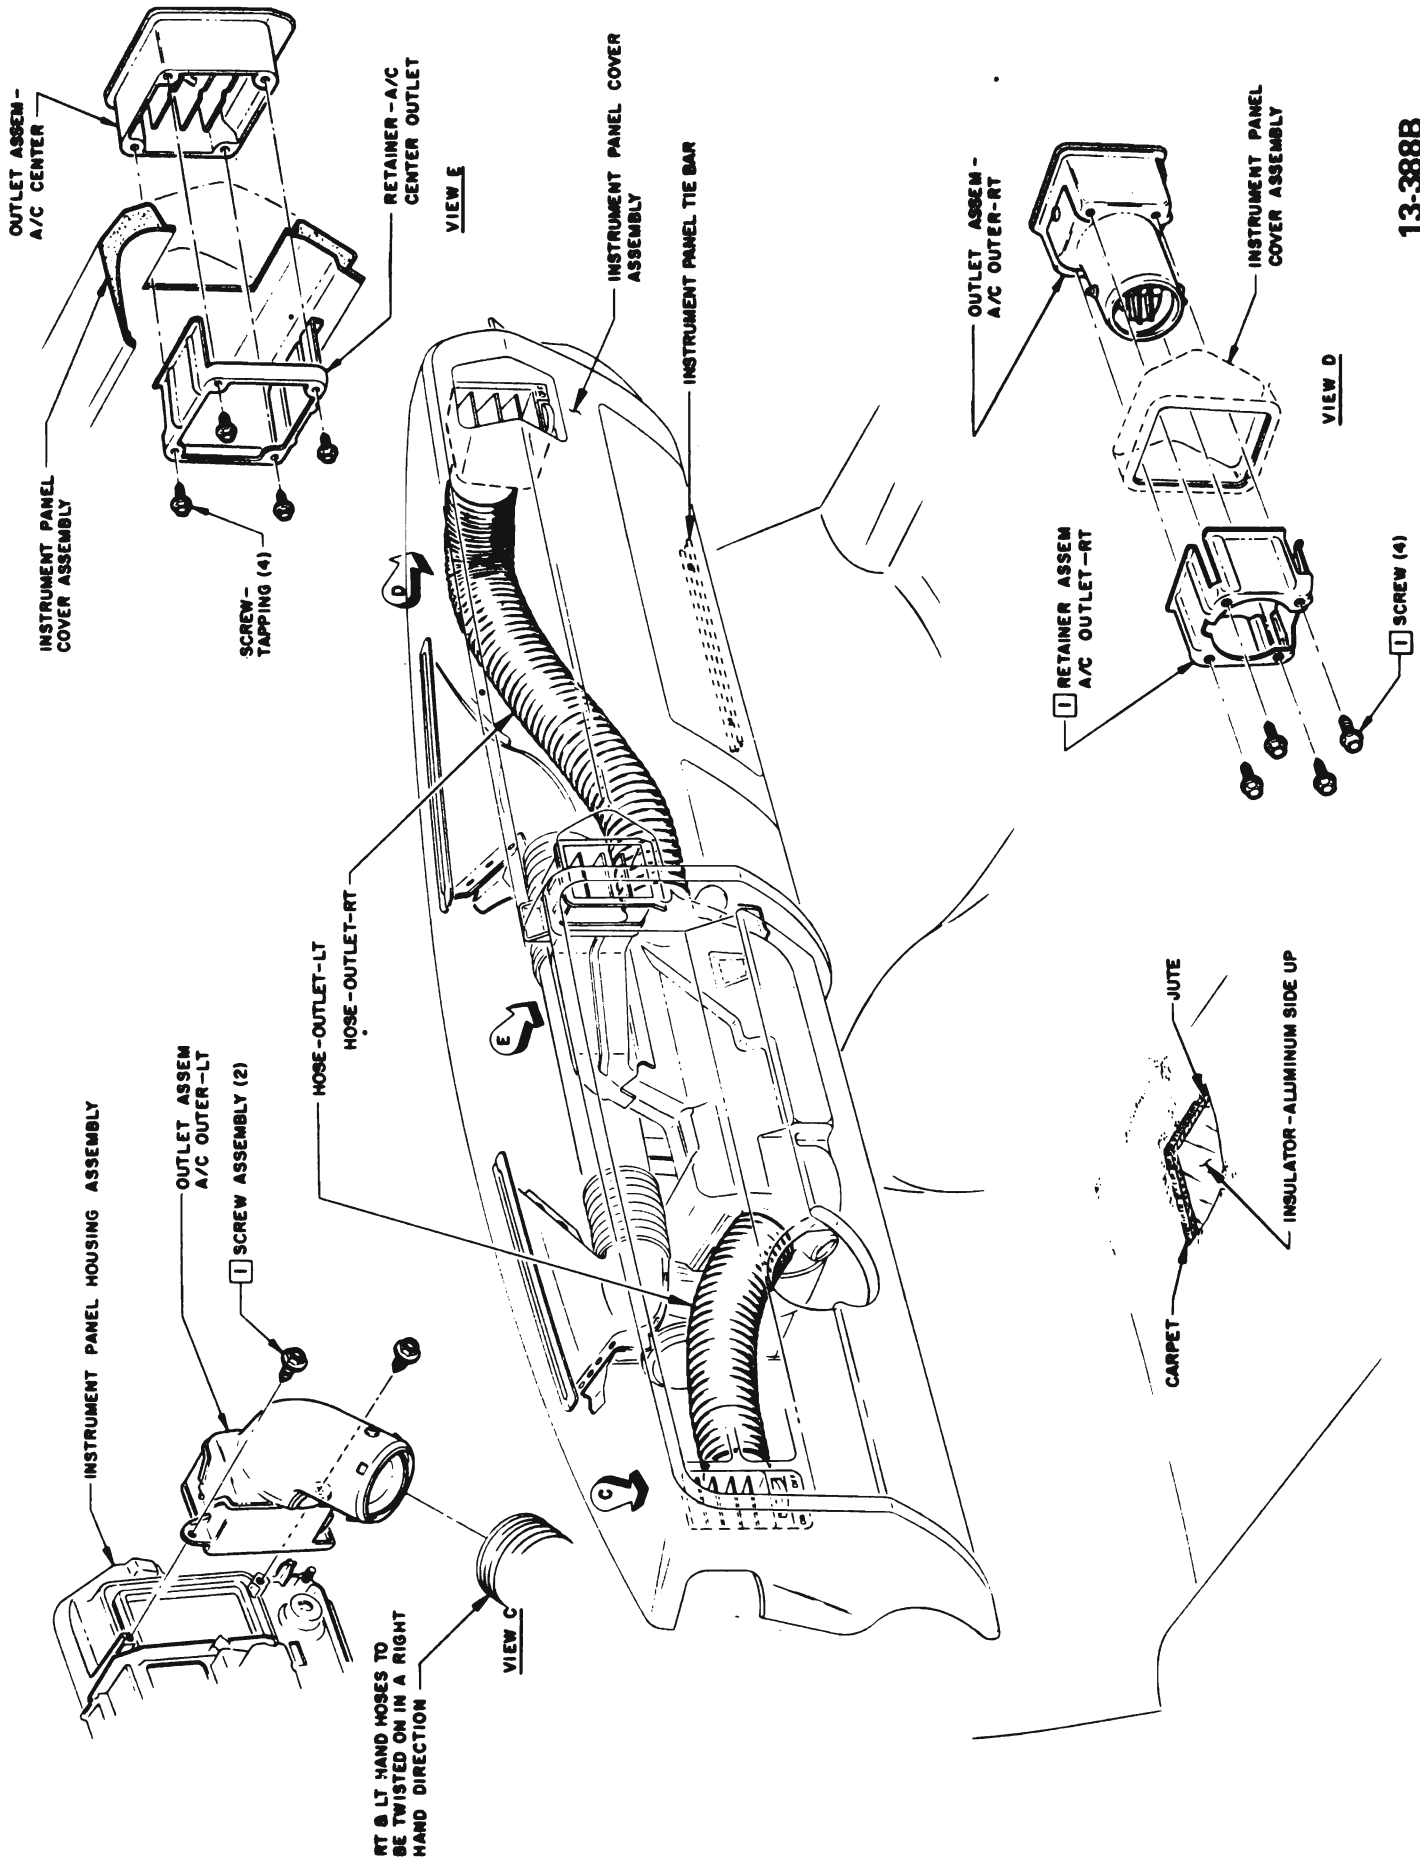

Figure 13-203 - 45-46-48000 Series Defroster Hose Installation
2. (45-46-48000 Series Only) Remove right defroster hose. See Figure 13-203.